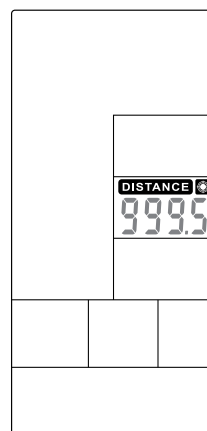

Figure 41
- ① In Standby mode, press Target Distance key and **DISTANCE** will light up, along with a long sound for 1s.
- ② **DISTANCE** value is flashing, press UP and DOWN to adjust (Figure 41). Press ENTER to confirm meanwhile buzzer beeps 1s and **DISTANCE** lasting lighting up.